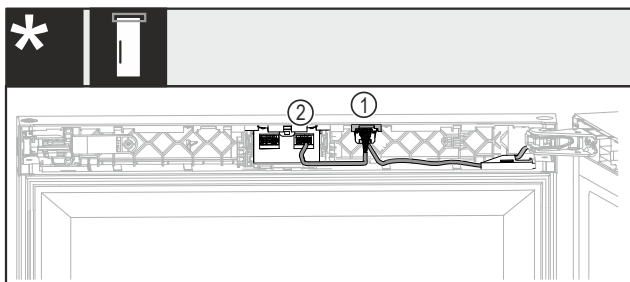

Fig. 45 Without lock or with mechanical lock\*
- ▶ Insert the plug with both cables Fig. 45 (1) into the guide.\*
- ▶ Engage the plug with a cable Fig. 45 (2) in the right-hand retaining clip.\*